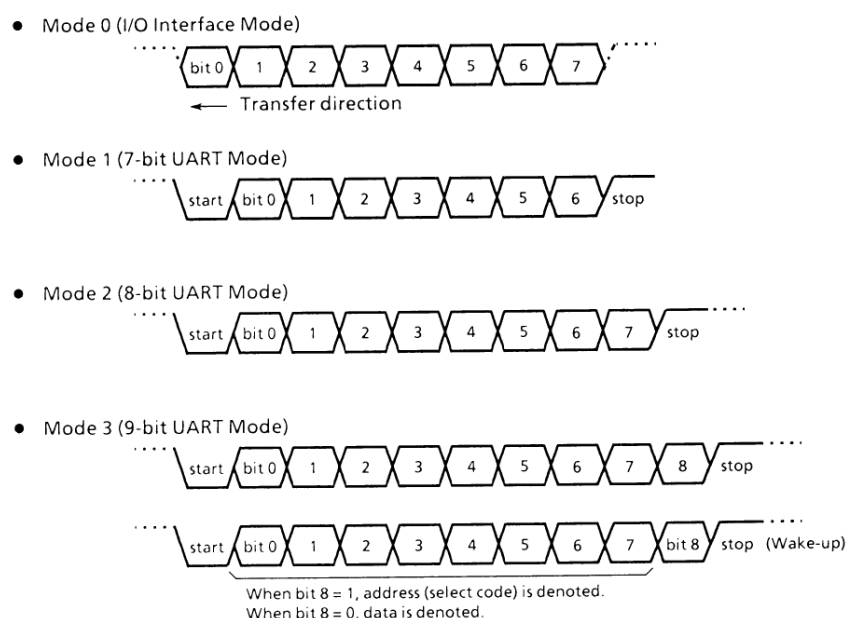

Figure 3.7 (1). Data Formats
The Mode 3 accommodates a wake-up function to start the slave controllers in a controller serial link (multi-controller system). Figure 3.7 (1) shows the data format (1-frame data) in each mode.